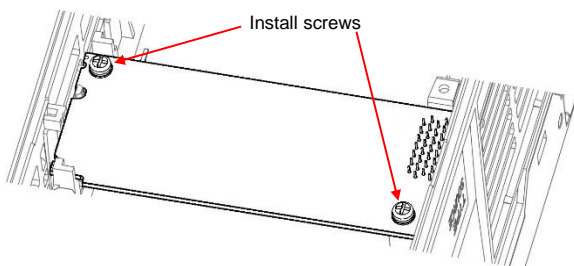

Figure 6: Interface Card Mounting Completed
4. Secure the interface card to the connector board PCB by first tightening the included M3 x 6mm screw into the inverter standoff located at the lower-right hand corner of the interface card. Next, install and tighten the included M3 x 6mm screw into the standoff mounting hole located at the upper-left hand corner of the interface card. Refer to Figure 6.